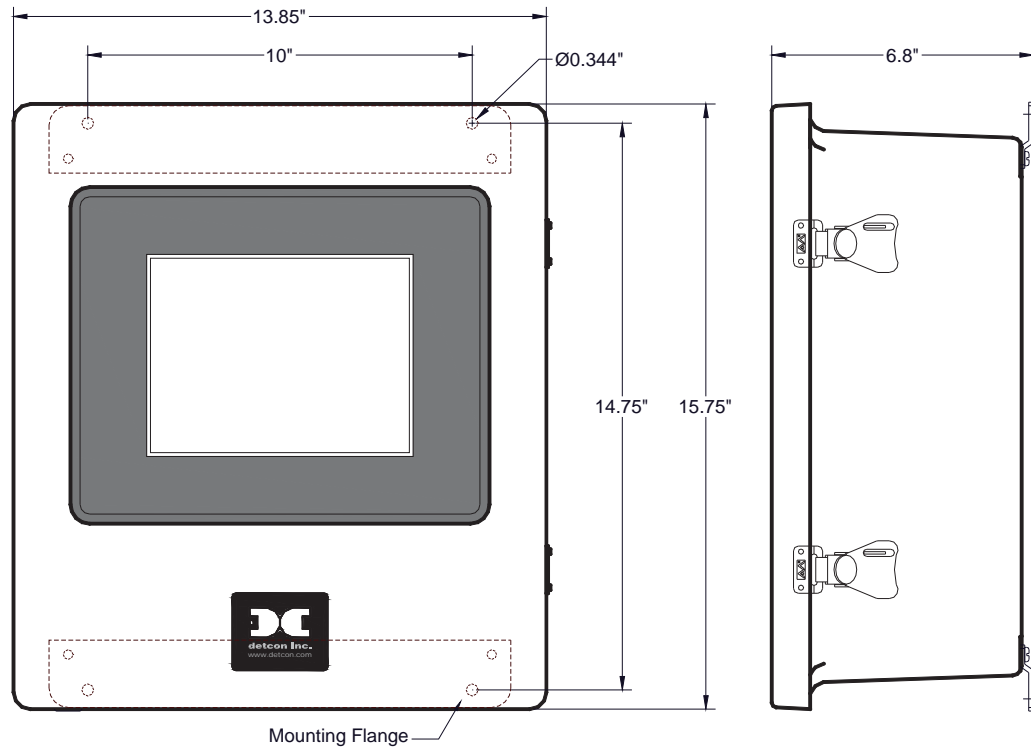

Figure 17 Dimensional Overview
1. Securely mount the 880 Enclosure in accordance with Figure 17.